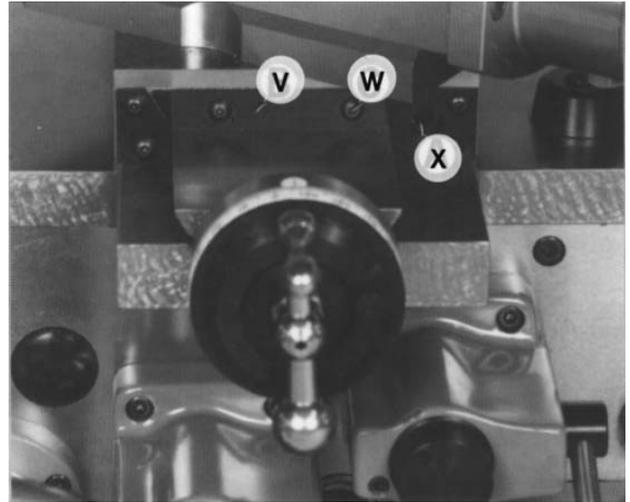

Figure 2.10 - Cross Slide Wipers and Gib Adjustment
4. If three cross slide wipers "V", Figure 2.10, have been disturbed, adjust the clearance between the wipers and the dovetail surfaces:
1. Insert 1/4" hex wrench into screw "X", Figures 2.10 and 2.11, and loosen one full turn.